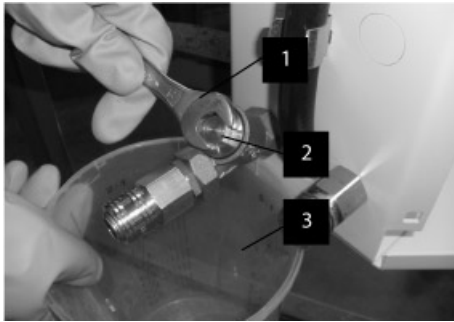

Fig. 51
1. Loosen the strainer cap (Fig. 51/2) by turning the wrench (Fig. 51/1) counter-clockwise. Hold a container (Fig. 51/3) beneath the strainer to catch any residual water released.
4. Tighten the strainer cap (Fig. 51/1) by turning clockwise. Attention should be paid to insert the o-ring seal correctly into the strainer.